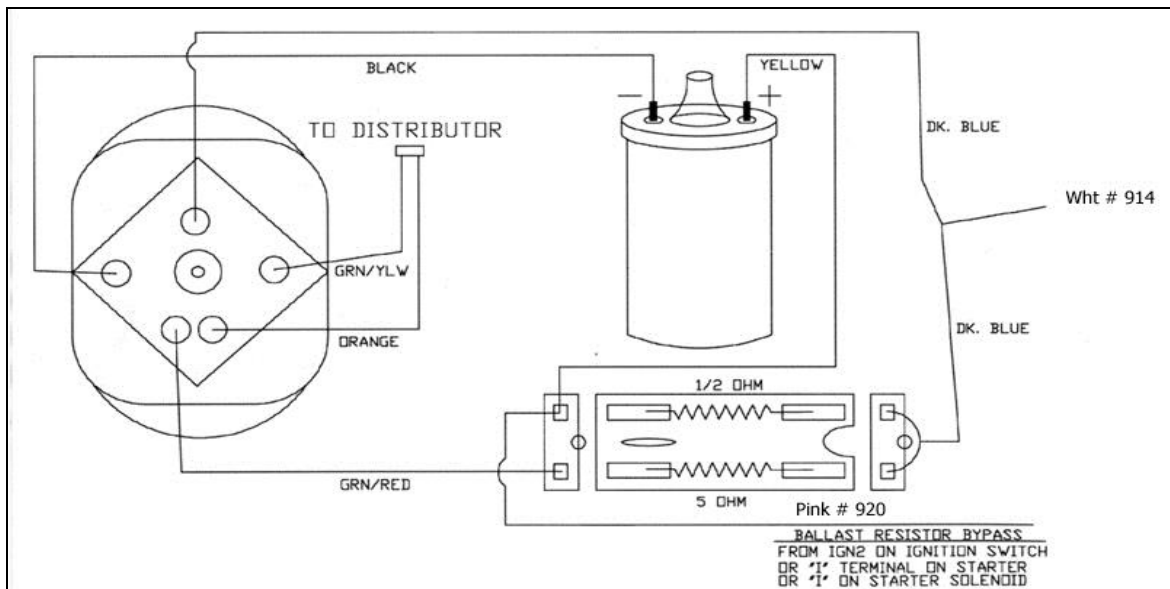

Figure 9-2B Mopar Electronic Ignition with Dual Ballast Resistor
9.2.11 Connect #914 (wht) to both dark blue wires as labeled in Figure 9-2B. Connect a ballast bypass wire as labeled in Figure 9-2B. **NOTE:** This ballast bypass wire will only provide 12 volts when cranking the engine. This is done for ease of starting the engine.